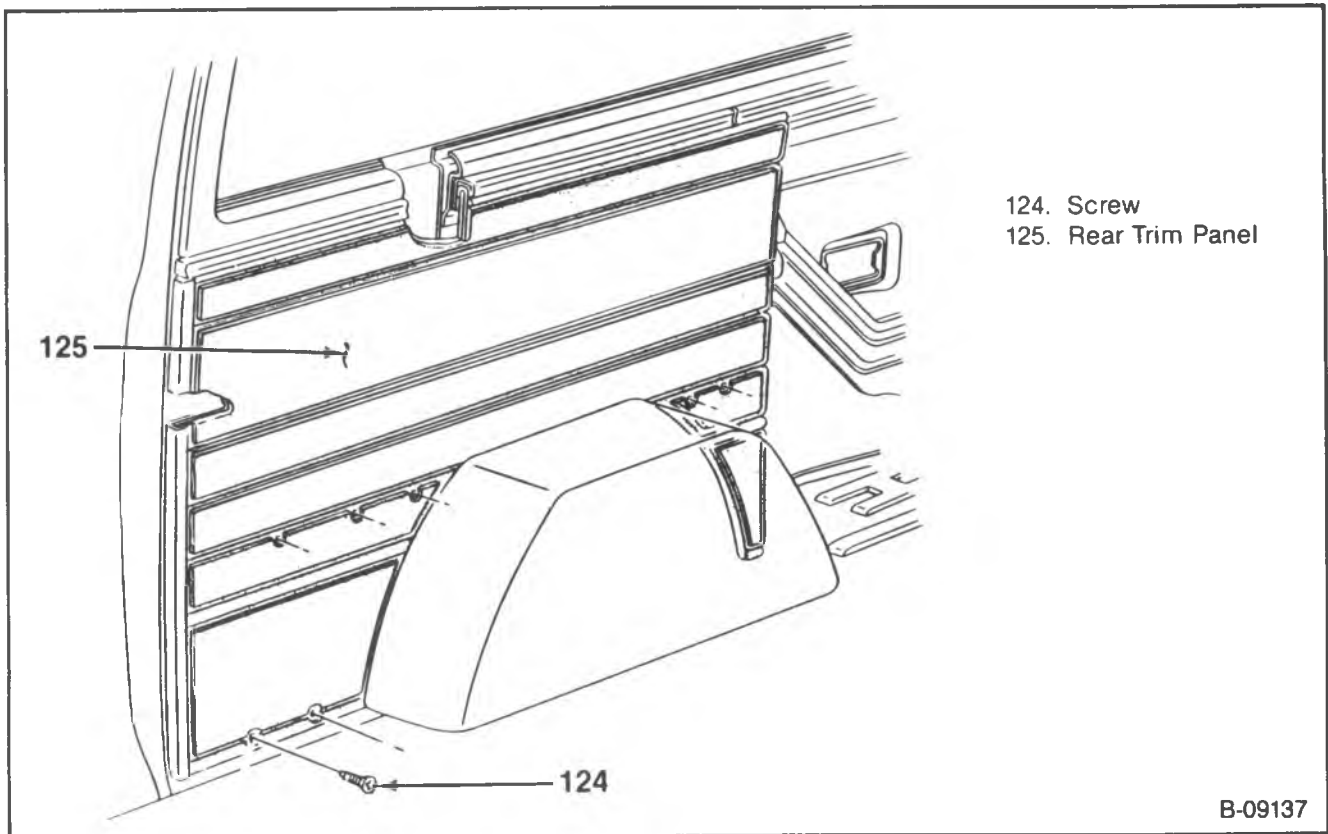

Figure 41 — Rear Trim Panel
13. Body side rear trim panel screws and the trim panel (figure 41).
2. Body side rear trim panel and screws (figure 41).